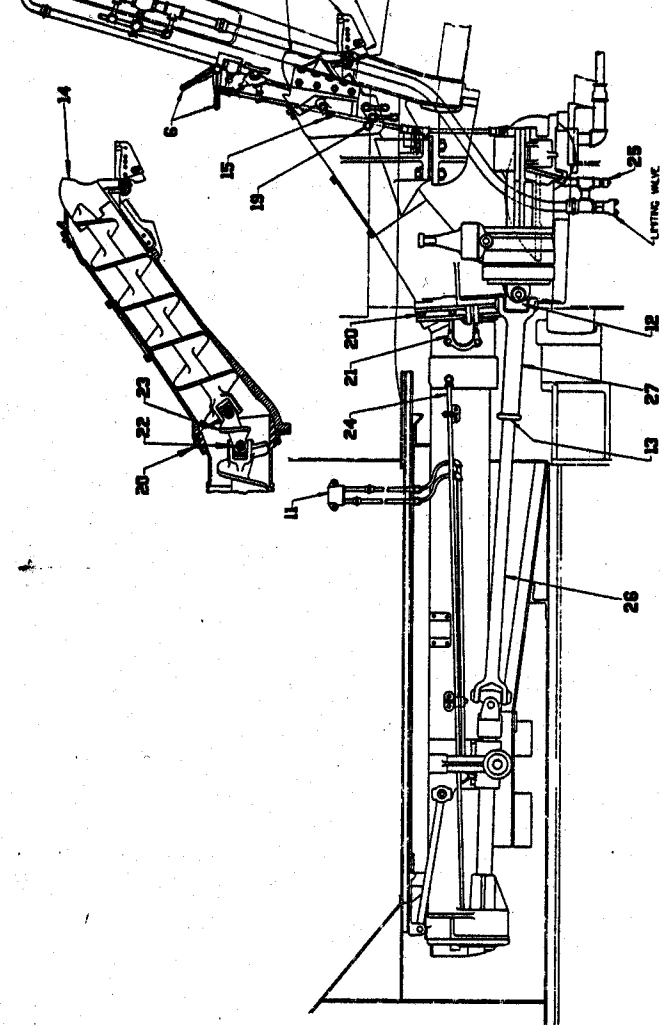

FIG. 5. TYPE LT-1 STOKER
40. Before moving the tender away from locomotive, first operate the stoker for a time sufficient to remove all coal from the elevator pipe. Then block elevator screw in its normal position; remove upper section of the ball joint clamp, No. 20, Fig. 5, and ball joint handhole covers, No. 21, after which the screws can be disconnected by removing universal joint bolt, No. 22. Raise and block conveyor trough in a position to clear lower section of ball joint clamp. The tender can now be separated from locomotive and, if desired, elevator screw can be removed from bottom of elevator pipe.